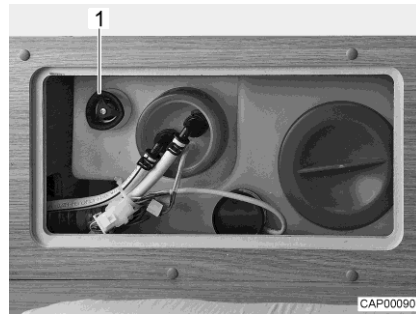

Fig. 98 Water tank with rotary handle
- Turn the rotary handle (Fig. 98,1) on the water tank in a clockwise direction as far as it will go.
- Turn the rotary handle (Fig. 98,1) on the water tank in an anticlockwise direction as far as it will go. Excess water will drain away leaving approx. 20 litres in the tank.